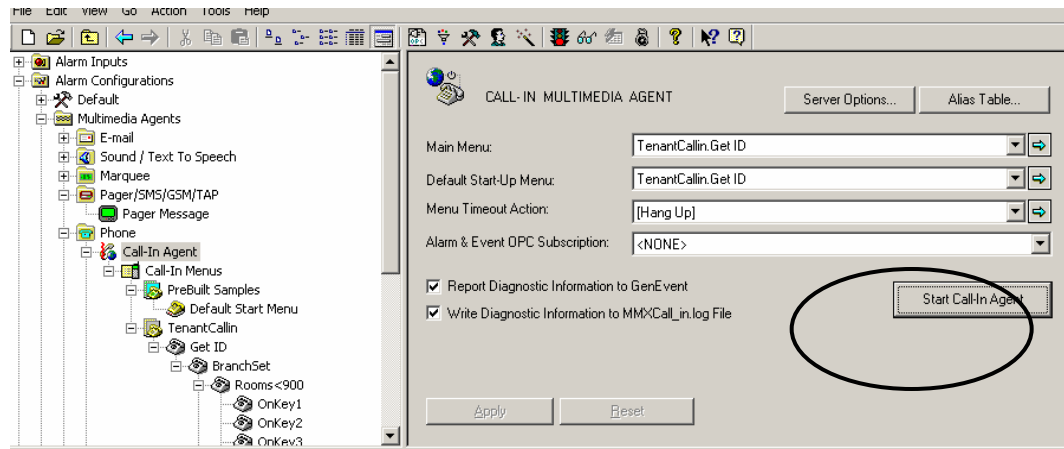

Figure 9.44. Starting the Call-in Agent
1. Click the **Start Call-in Agent** button on the general settings dialog, as shown in **Figure 9.44**.